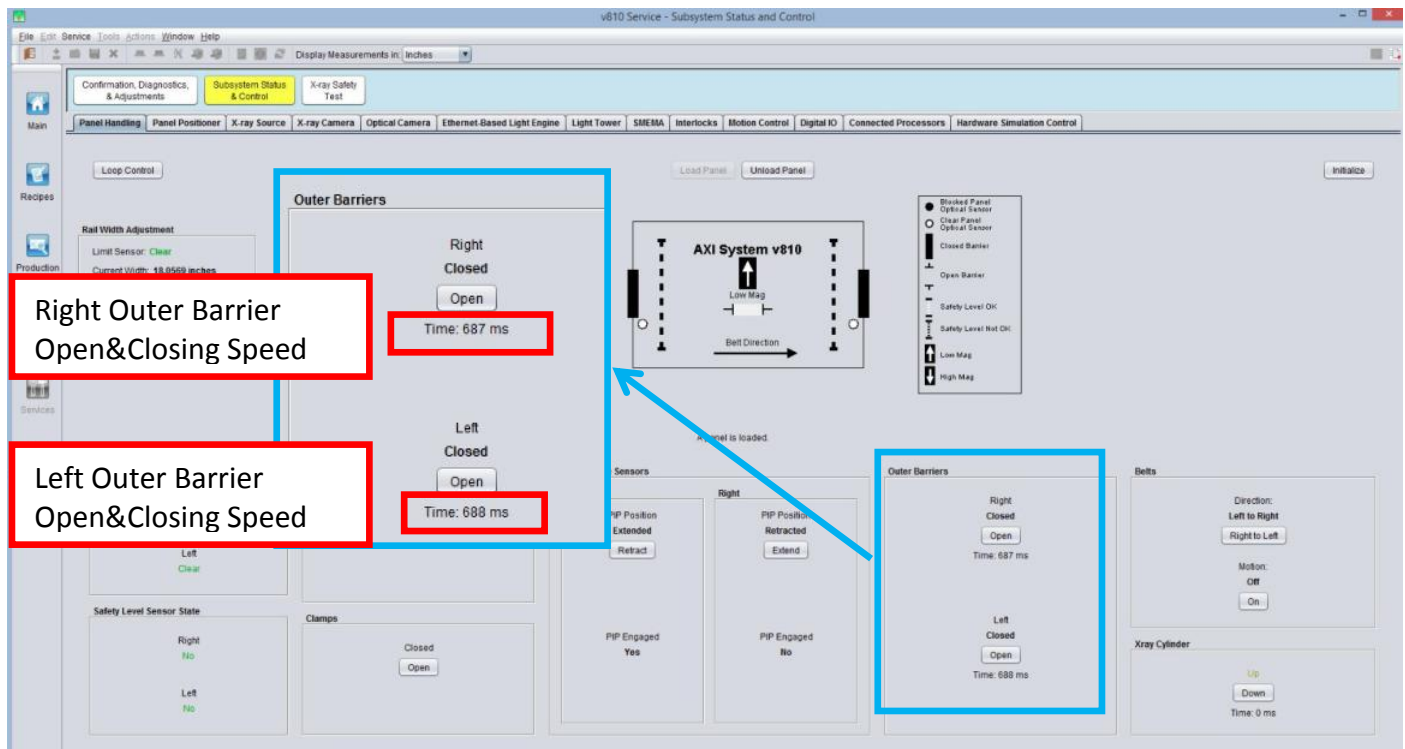

Figure 21 Outer Barrier Opening & Closing Duration
27. Open & Close particular Outer barrier which perform Valve & Speed controller upgrading. Record down Opening & Closing duration as below Figure 21.